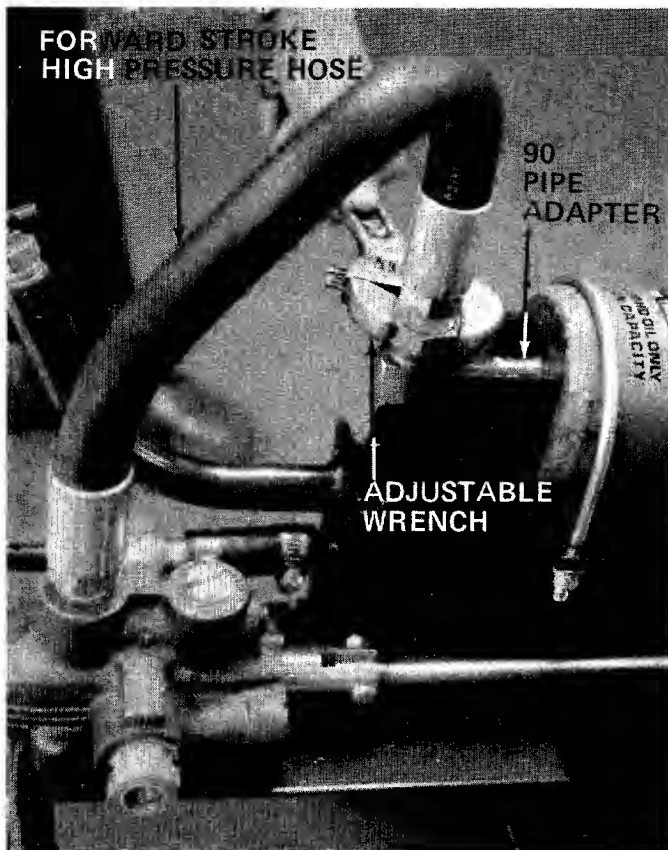

FIGURE 11
13. Assemble the other end of forward stroke high pressure hose to 90° pipe adapter. (Located at rear of cylinder). See figure 11. An adjustable wrench is required.